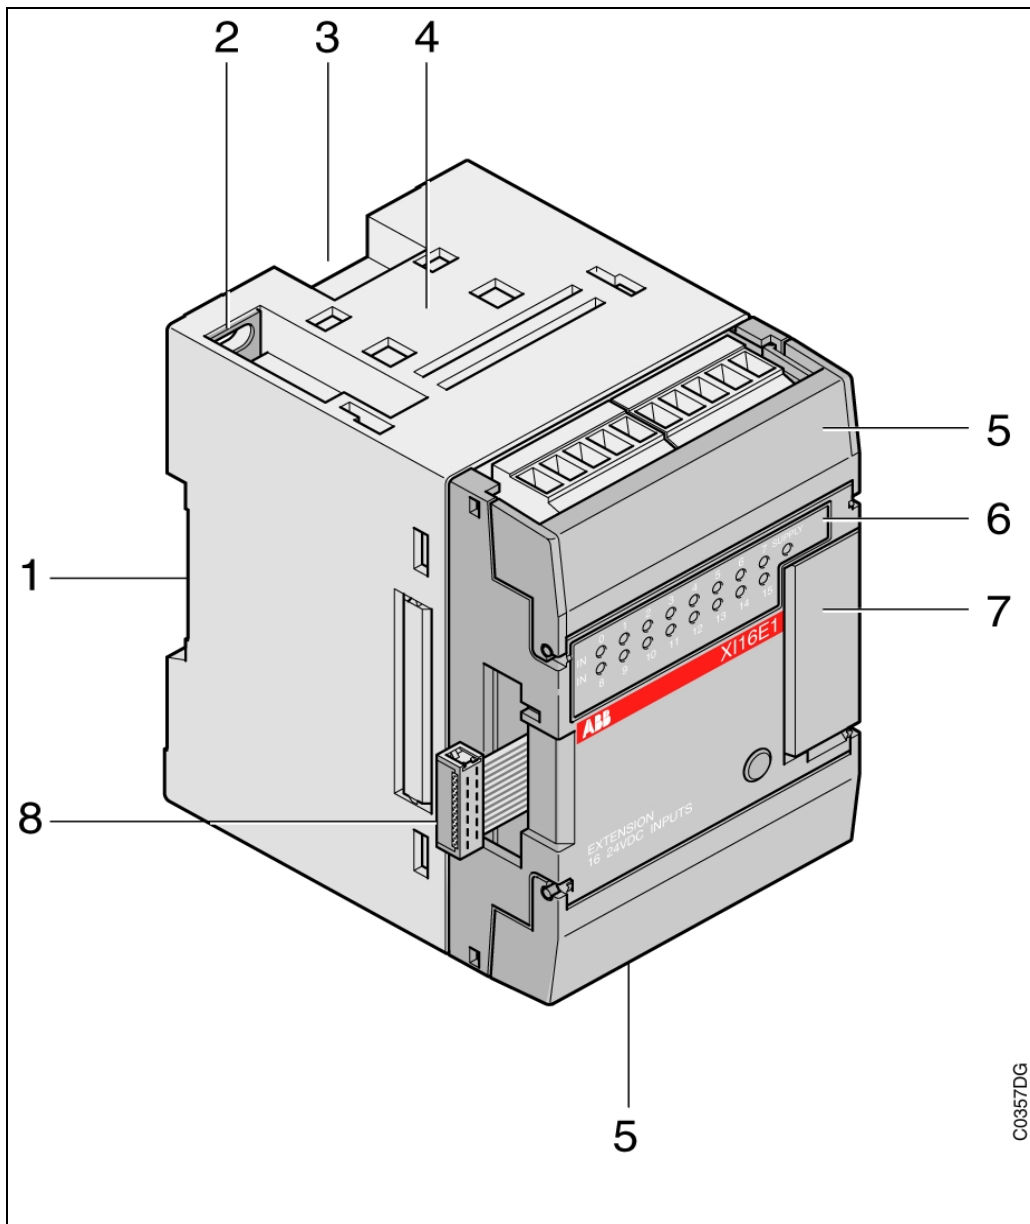

Figure 2-5: View of a digital central extension as an example
**Digital central extension (description), see Figure 2-5 on the previous page**